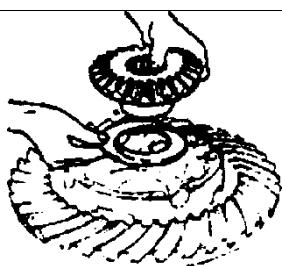

Figure 3-16
5) Removing the half-shaft and washer (Figure 3-16)